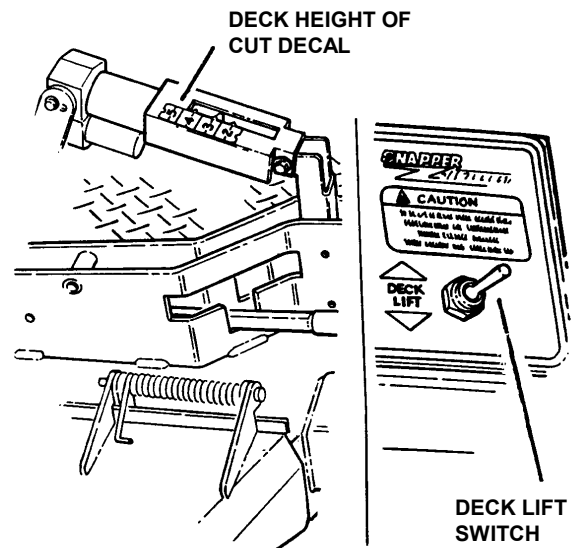

FIGURE 3.10
1. Adjust cutting height as desired to any position, using deck lift switch. When in desired height of cut, release switch. See Figure 3.10. Observe the height of cut decal located on the upper right top side of the deck to place deck at the correct height of cut. See Figure 3.10. **NOTE:** The engine does not have to be running to adjust cutting height, but key switch must be in the "ON" position.